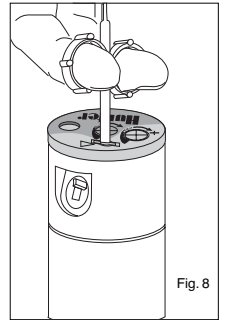

Fig. 8
- Insert the plastic key end of the Hunter wrench into the lifting socket of the sprinkler and turn 90°. Pull the riser up to gain access to the nozzle socket (Fig. 8).